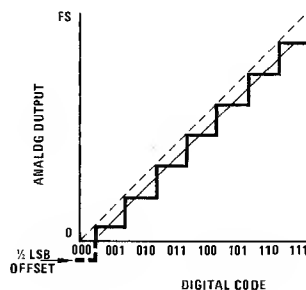

FIGURE 5. Linear,  $\frac{1}{2}$  LSB Offset Error
**Offset Error** (zero error) is the output voltage of a DAC with zero code input, or it is the required mean value of input voltage of an ADC to set zero code out. (See figure 5.) Offset error is usually caused by amplifier or comparator input offset voltage or current; it can usually be trimmed to zero with an offset zero adjust potentiometer external to the DAC or ADC. Offset error may be expressed in  $\%$  FS or in fractional LSB.